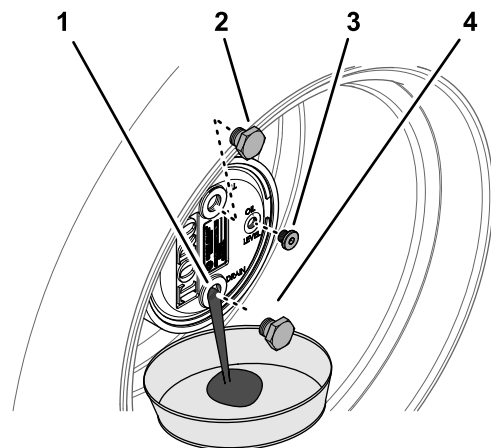

Figure 92
2. Remove the fill plug at the 12 o'clock position and the check plug at the 3 o'clock position (Figure 92).
- Place a drain pan under the planetary hub, remove the drain plug at the 6 o'clock position, and allow the oil to fully drain (Figure 92).
- Install the drain plug into the drain hole of the planetary housing (Figure 92).